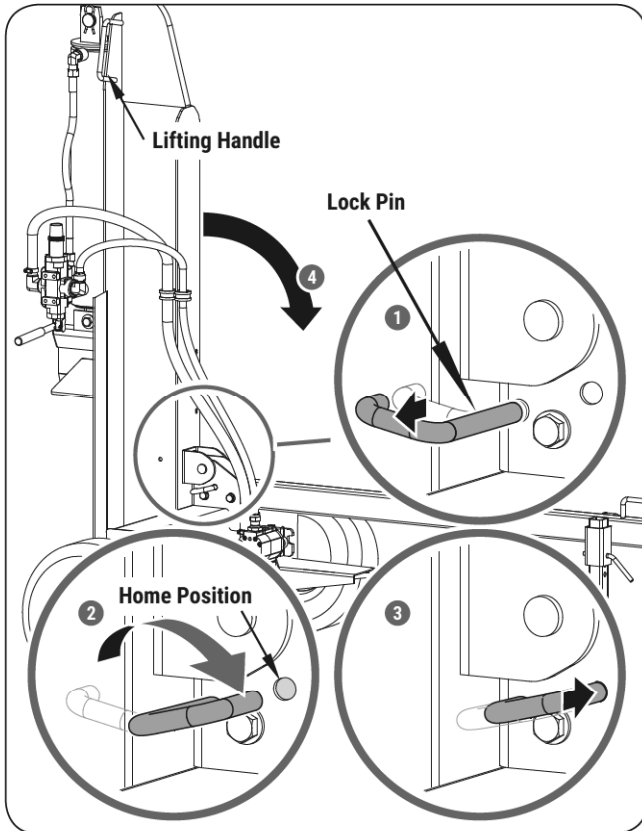

Figure 10b
3. Pull out the lock pin back to the home position. (See **Figure 10b**.)